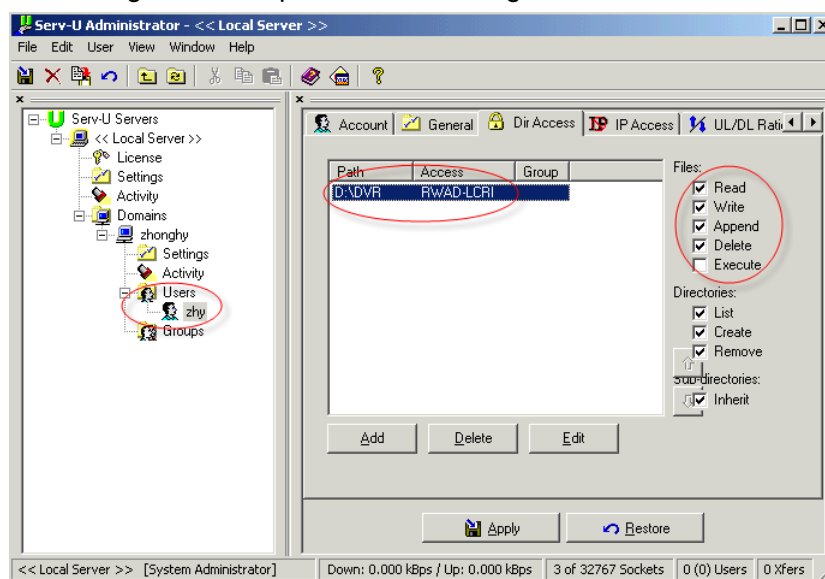

Figure 4-97
-> Serv-U Administrator. Now you can set user password and FTP folder. Please note you need to grant write right to FTP upload user. See Figure 4-97.